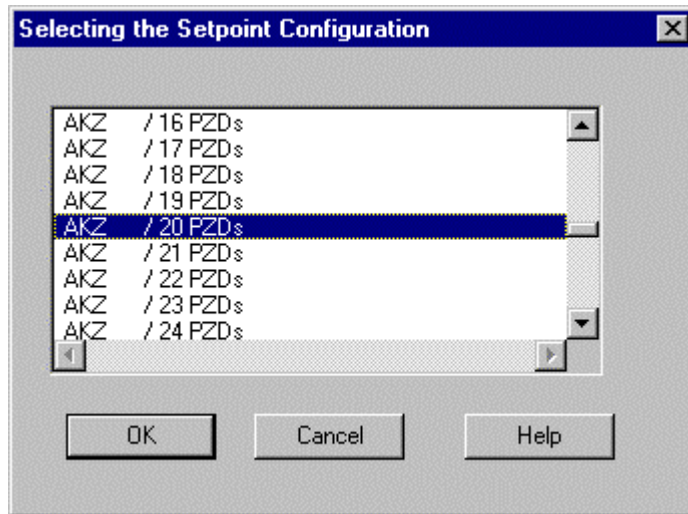

Figure 2
- Upon request make sure you select **AKZ > / 20 PZDs** (Figure 2).